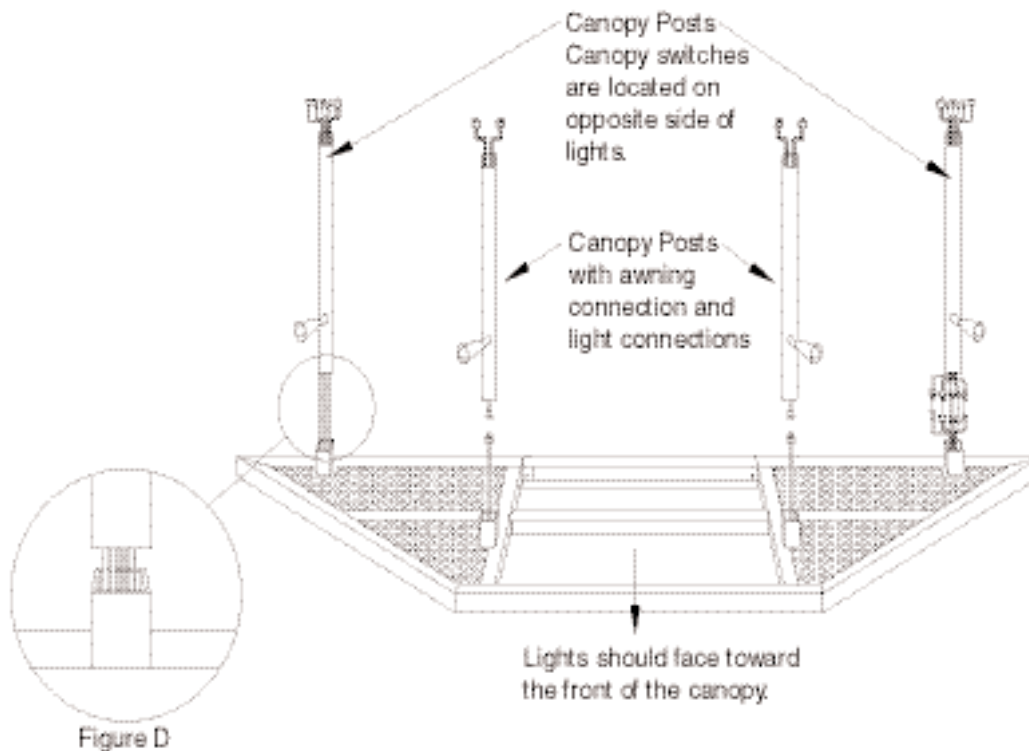

Figure 37. Canopy Assembly
4. After making all the wire connections, slide each canopy support post into the support sleeves (located on the canopy). Gently tuck the cables into the support post, making sure not to pinch the cables (**Figure 37**).